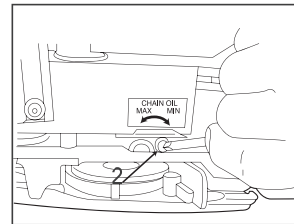

Figure 12
Rotate the adjustment screw counterclockwise as shown (figure 12 MAX)
Rotate the adjustment screw clockwise as shown (figure 12 MIN)
2. Chain oil port (Figure 12).